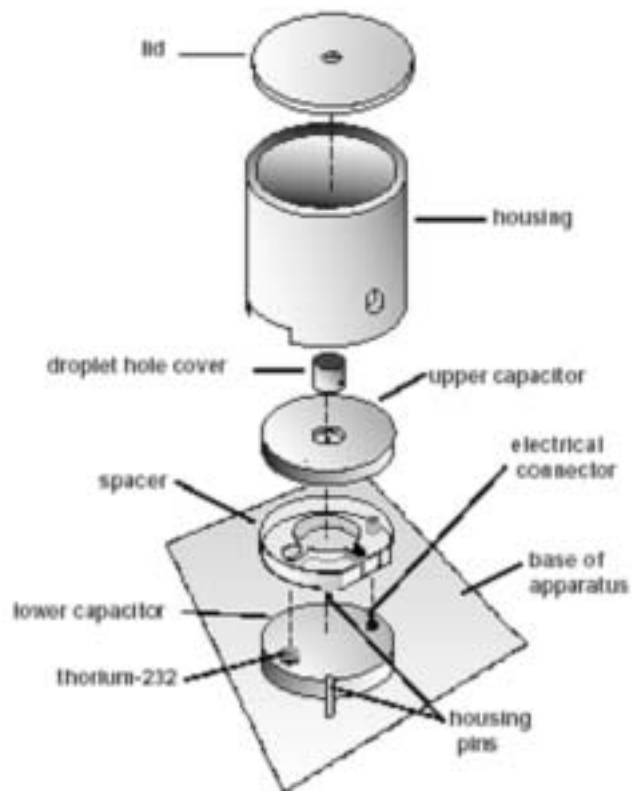

Figure 5. Droplet viewing chamber
1. Measure d , the plate separation of the capacitor. Disassemble the droplet viewing chamber by lifting the housing straight up and then removing the upper capacitor plate and spacer (figure 5). d , the thickness of the plastic spacer, can be measured with a micrometer. Make sure you do not include the raised rim of the spacer in your measurement. Handle the brass plates and plastic spacer carefully to avoid scratching them.
- Reassemble the plastic spacer and top capacitor plate onto the lower capacitor plate. Replace the housing, aligning the holes in its base with the housing pins (see figure 5). Note that the thorium source and the electrical connection to the lower capacitor plate fit into appropriately sized holes on the plastic spacer.
1. Complete the reassembly of the droplet viewing chamber by placing the droplet hole cover on the top capacitor plate and then placing the lid on the housing (see figure 5). Note that the droplet hole cover has holes on the bottom and the side.